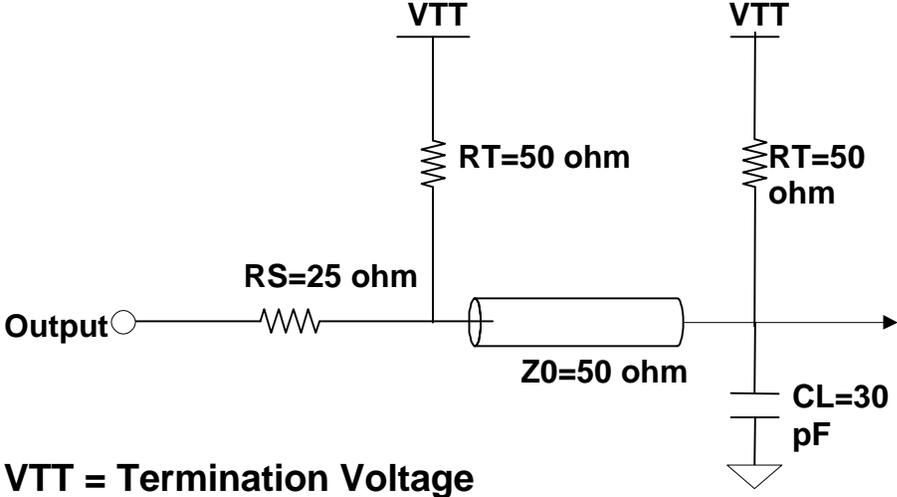

Figure 24: Class II SSTL-2 DDR termination
- In the case of DDR memories do use double terminations. The SSTL-2 documentation specifies two types of drivers – class I (8 mA) and class II (16 mA). A typical case of class II SSTL-2 DDR termination is illustrated in figure 24. For this case the drivers are stronger (16 mA) and data and strobe require 25 ohm (2 x 50 ohm) parallel termination as well as 50 ohm line impedance. Rage Mobility M6 uses class I drivers (8 mA) and the graphics memories also have class I drivers. In addition to that the series termination is built into the graphics controller therefore a 60 ohm line